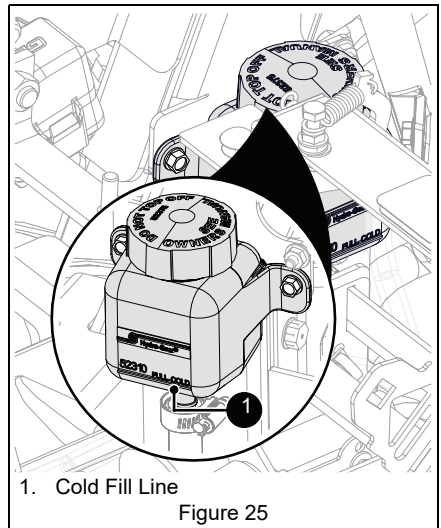

Figure 25
2. Check oil level in expansion tanks. Oil should reach the cold fill indicator mark. See Figure 25.
- b. Fill expansion tanks with 15W-50 Full-Synthetic Hydraulic Fluid until oil reaches the cold fill indicator mark. See Figure 25.